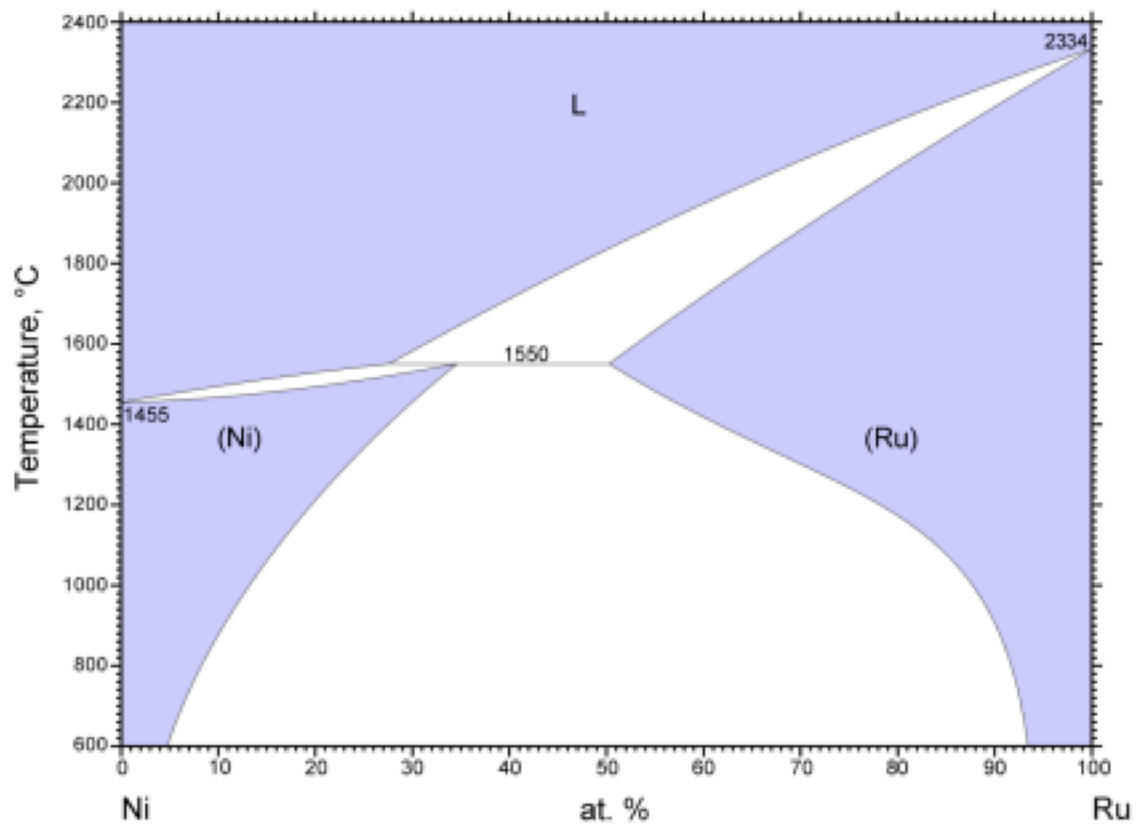

Figure 1: Composition-temperature phase diagram for Ni-Ru.
1. (70 points) Figure 1 on the next page shows the composition-temperature phase diagram for the Ni-Ru system, which features a peritectic invariant reaction, and three separate phases: